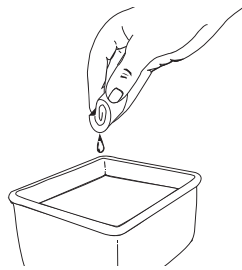

Fig. 26
3. Wash the filter in detergent and water (Fig. 26). Rinse the filter thoroughly and allow it to dry.